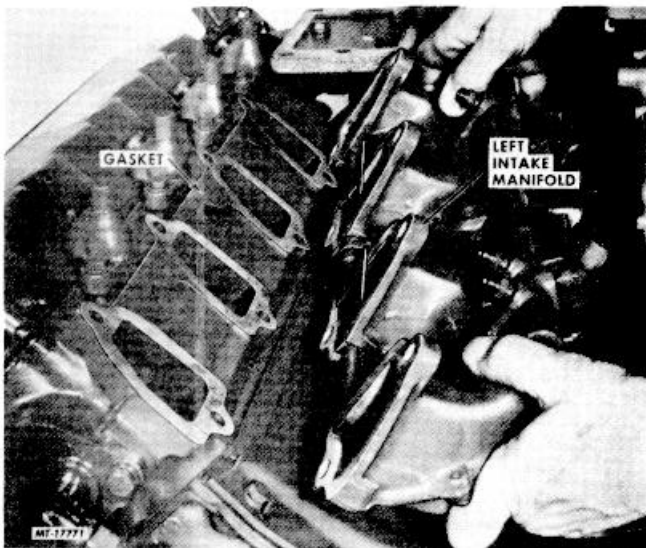

Fig. 38 Removing Intake Manifold
31. Remove intake manifold capscrews and lockwashers and remove intake manifolds and gaskets from cylinder heads (Figure 38).